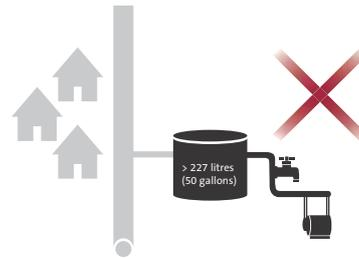

Fig. 12 Pipe installation examples
- Do not fit any other outlets in the inlet pipes to the pump. See fig. 12.